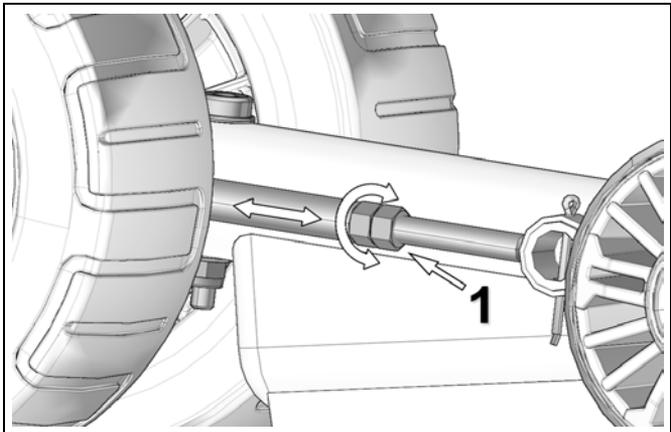

Figure 27
Loosen jam nut (1) and turn adjusting nut to set track tension. See Figure 27.